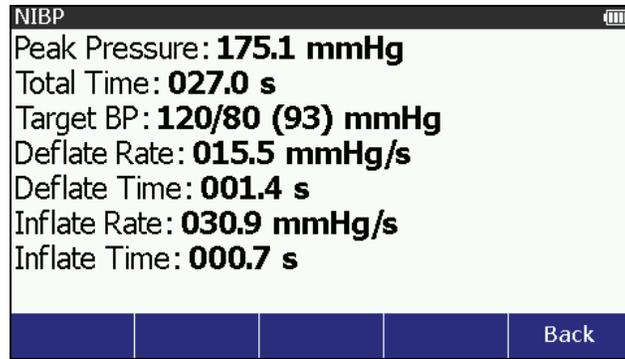

Figure 36. NIBP Summary Screen
3. Push the **Summary** softkey to show the blood pressure measurements in Figure 36 in the display.